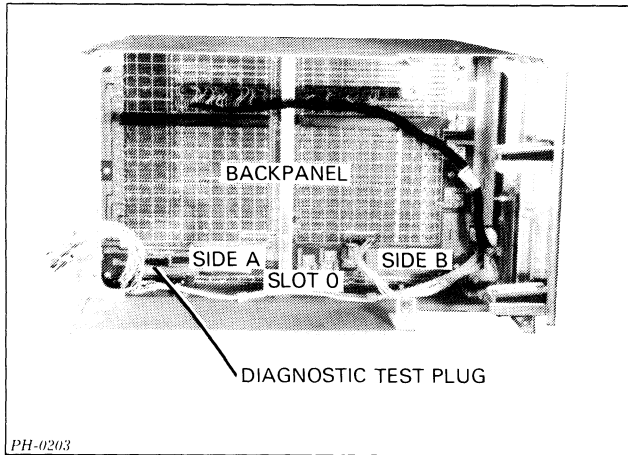

Figure 6.5 Diagnostic test plug
5. Make sure the diagnostic test plug is inserted in the correct location with the "RUN" label up (see Figure 6.5).
2. Check that the diagnostic test plug is in the correct location with the "RUN" label up (see Figure 6.5). If it is, continue to step 3; otherwise: